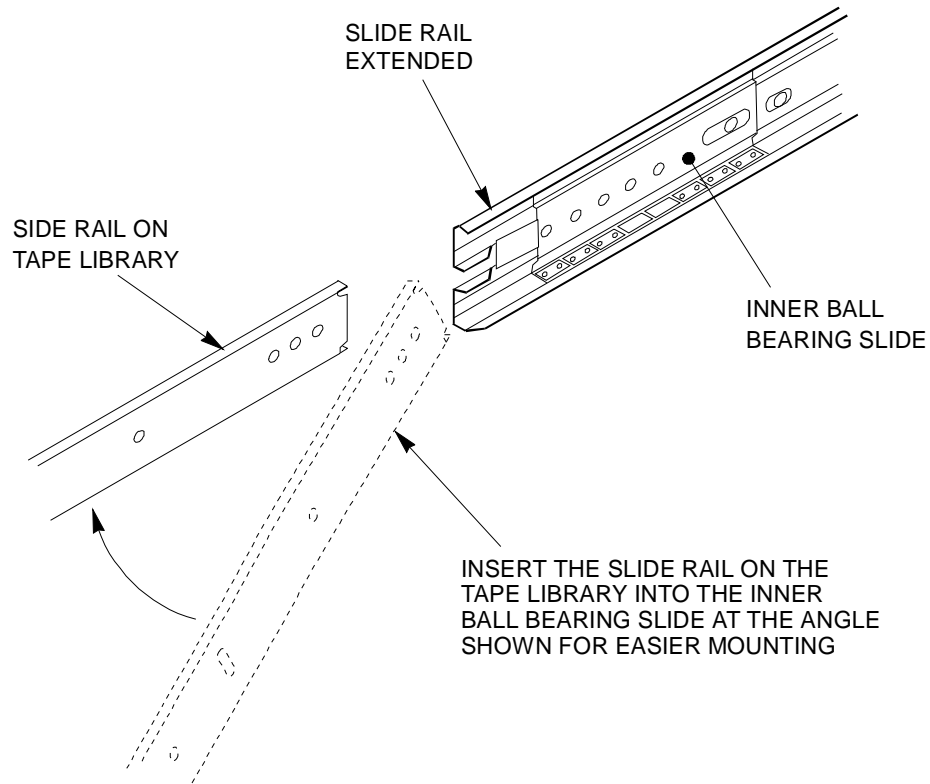

Figure 15. Mounting the Q2.15 onto the Slide Assembly
- 15.** Lift the Q2.15 and insert the rails mounted on the Q2.15 chassis into the extended slide assembly rails. Make sure that the Q2.15 is straight relative to the slide assembly and that the Q2.15 rails are in the plastic guides at the front of the slide assembly rails (see **Figure 15.**).